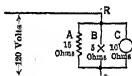

FIG. 44. Coil  $A$ , arc lamp  $B$ , and incandescent lamp  $C$  in parallel across 120 volts.
**21. Parallel Circuit. Resistance.** Suppose that it is desired to find the resistance of a parallel combination, as  $A$ ,  $B$  and  $C$ , in Fig. 44. There are formulas for this, but the easiest method is to apply Ohm's Law as follows: